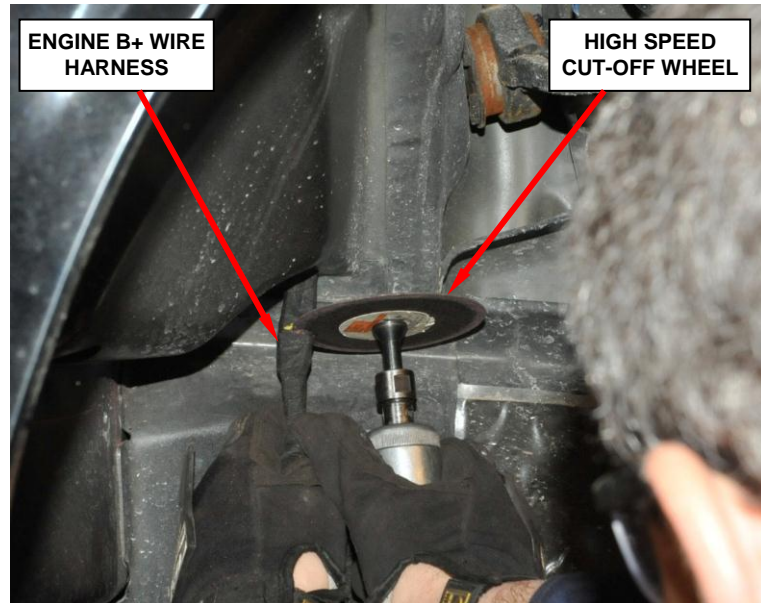

Figure 7 – Cut Off B+ Wire
24. Using a high speed cut-off wheel, cut the B+ wire at the mark made in Step 23 (Figure 7).